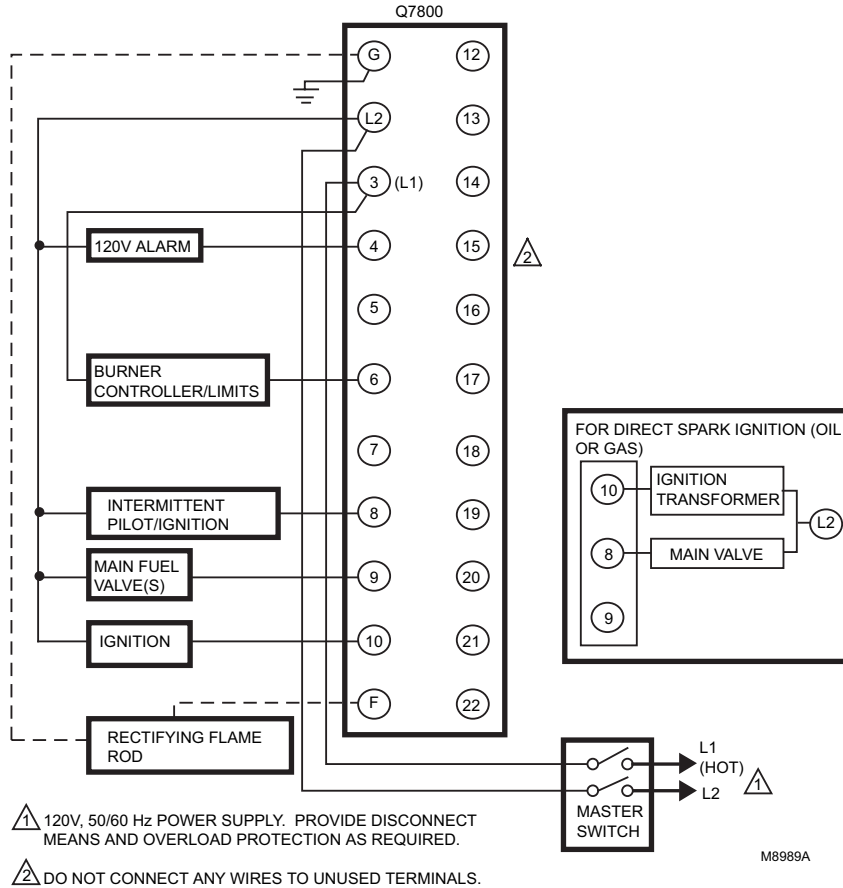

Fig. 6. Wiring the RM7890D Relay Module.
1. *Wiring connections for the relay modules are unique; refer to Fig. 6 and 7 or the correct Specifications for proper subbase wiring.*
1. For proper subbase wiring, refer to Fig. 6 and 7.